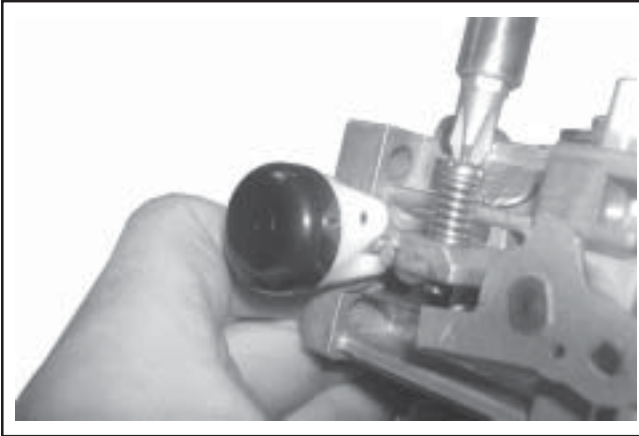

Figure 5-28. Installing Idle Speed Adjusting Screw and Spring.
11. Install the new idle speed (RPM) adjustment screw and spring onto the carburetor. Thread in until 3 or 4 threads are exposed, as an initial adjustment. See Figure 5-28.